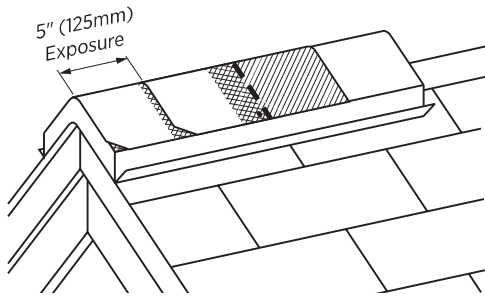

Figure 12-13: Install cap shingles at their correct exposure and cover all fasteners.
3. Apply a full cap shingle over the starter (Figure 12-13), and place fasteners at 5-5/8" (6-1/4" for metric) up from the exposed bottom edge and 1" in from each side. Nails must not be exposed on the finished roof. All nail heads must be driven straight and must not cut into the shingle surface.